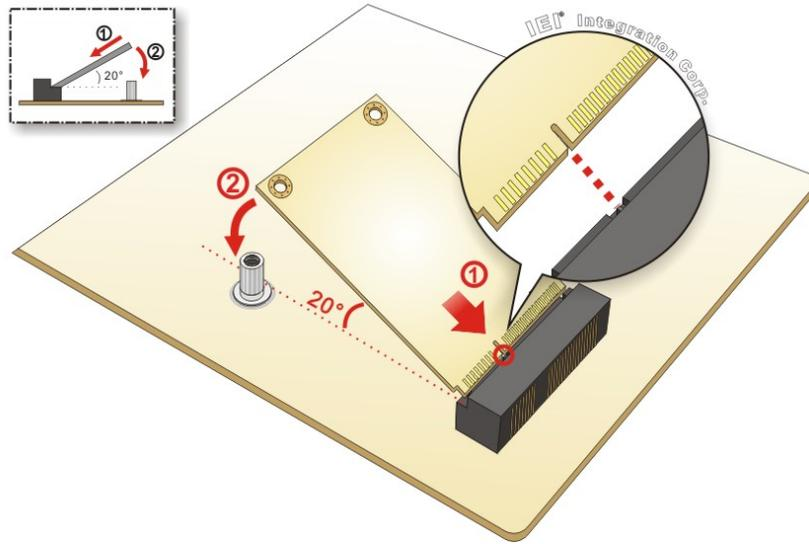

Figure 4-2: Inserting the Full-size PCIe Mini Card into the Slot at an Angle
Step 3: Insert into the socket at an angle. Line up the notch on the card with the notch on the slot. Slide the PCIe Mini card into the socket at an angle of about 20° (Figure 4-2).